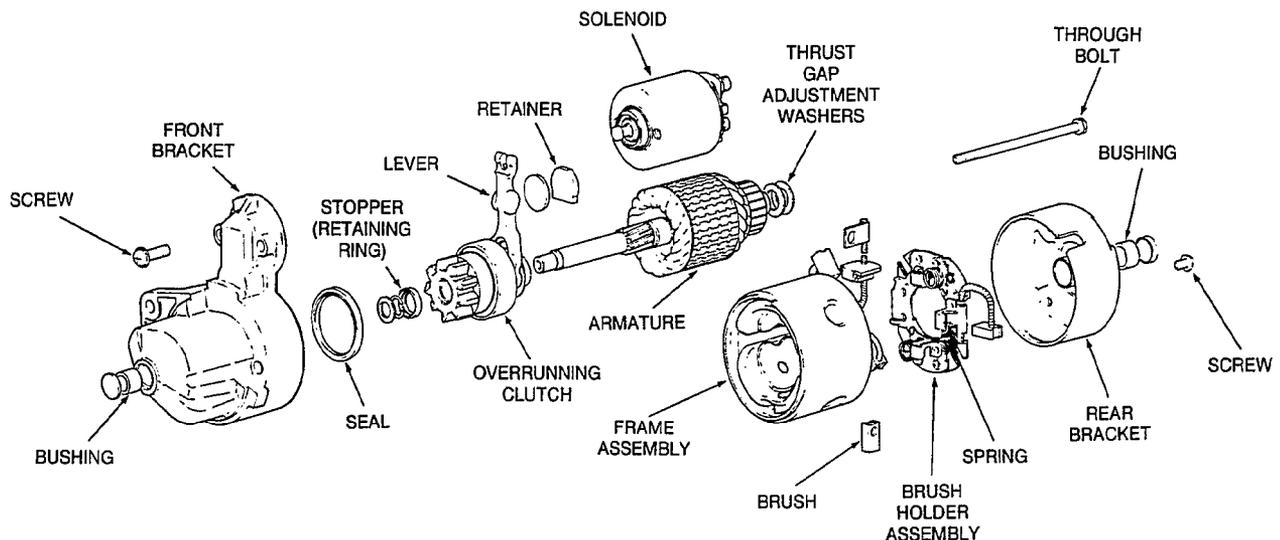

FIGURE 2. STARTER MOTOR (SOLENOID SHIFT TYPE)
1. Remove "M" terminal nut and wire lead from solenoid (Figure 2).